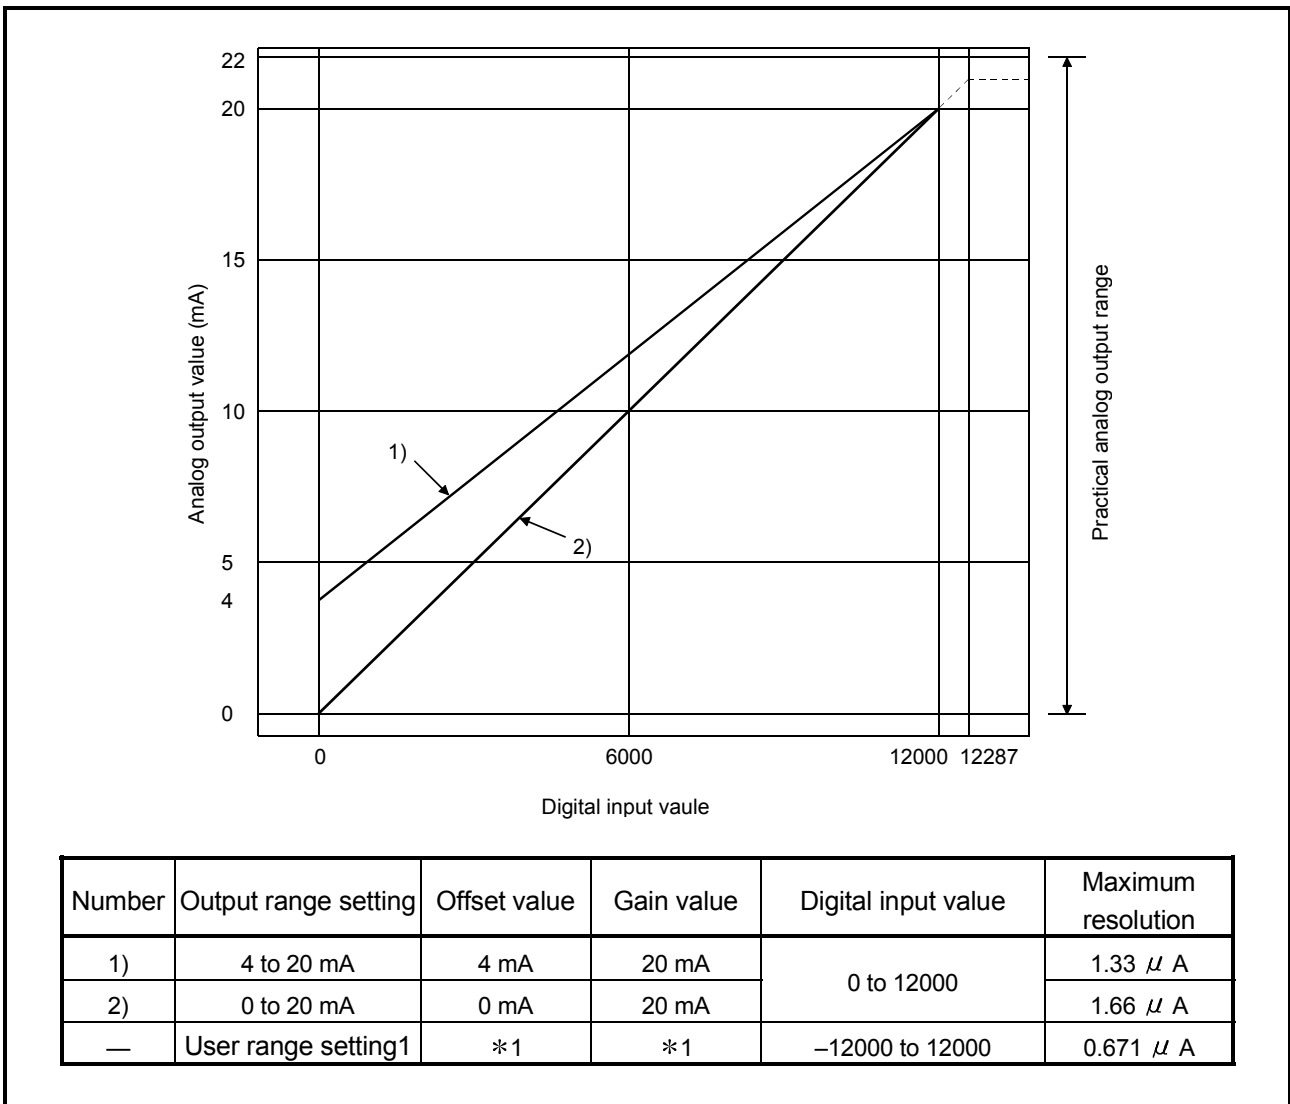

Figure 3.2 Current output characteristic
Figure 3.2 shows a graph of the current output characteristic.
(1) Set within the digital input range and analog output range for each output range. If these ranges are exceeded, the maximum resolution and accuracy may not fall within the performance specifications. (Avoid using the dotted line area shown in Figures 3.2.)
(2) Set the offset/gain values for the user range setting1 *1 within a range in which the following conditions are satisfied.